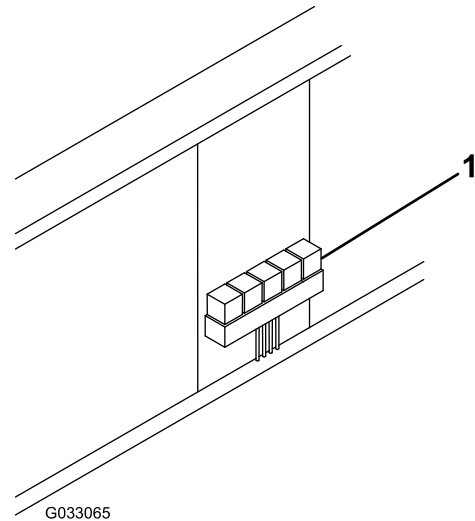

Figure 22
29. Mount the relay pack to the inside of the engine compartment using 4 sheet-metal screws (Figure 22).